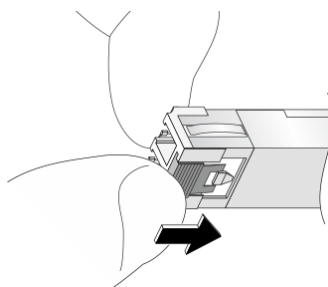

Figure 15. Releasing the slide tab
- Slide Tab—With your thumb, push the slide tab on the bottom front of the SFP module in the direction of the equipment to disengage the module from the line card port (see figure 15). If you pull on the SFP module without disengaging the tab, you can damage the SFP module.